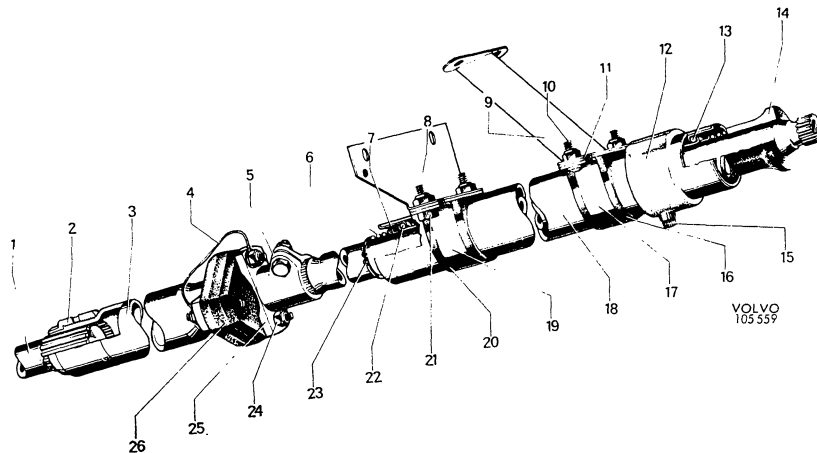

Fig. 6-34. Steering column
The steering column is journaled in the jacket tube (Fig. 6-34). The connector (26) consists of a rubber disc which joins the flanges to the steering column and sleeve. Linkage with the steering box is by means of bolting with clamping sleeve. (3) which permits axial compression with powerful impact (frontal collision).
1. Remove the clamping bolt (5, Fig. 6-34) and disconnect one of the battery leads.
3. Disconnect the lock ring (23) and pull down the spring (6) and seat (7) for the bearing.
6. Insert the steering column in the steering column jacket and fit the parts of the lower bearing. Fit the horn cable with the help of wire. Push the steering column into the flange and fit the clamping bolt (5) and lock ring (23).